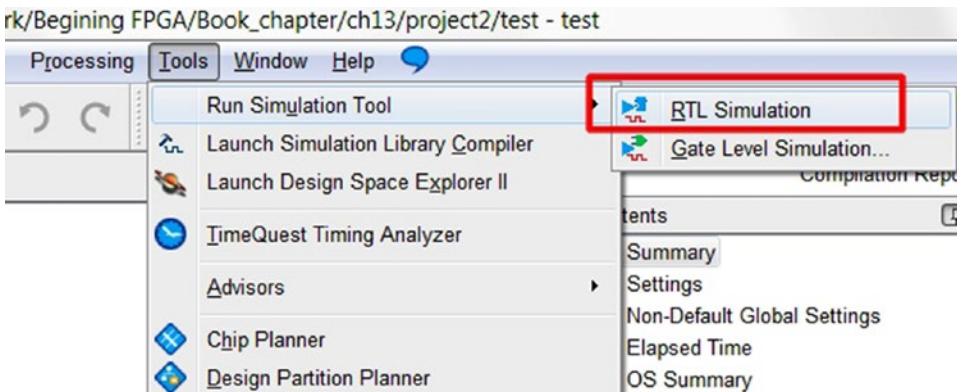

Figure 13-30. Start RTL simulation
10. Start simulation from Quartus Prime by clicking Tools ► Run Simulation tool ► RTL simulation (Figure 13-30). This should bring us to the ModelSim with the test bench as the top level of the simulation.